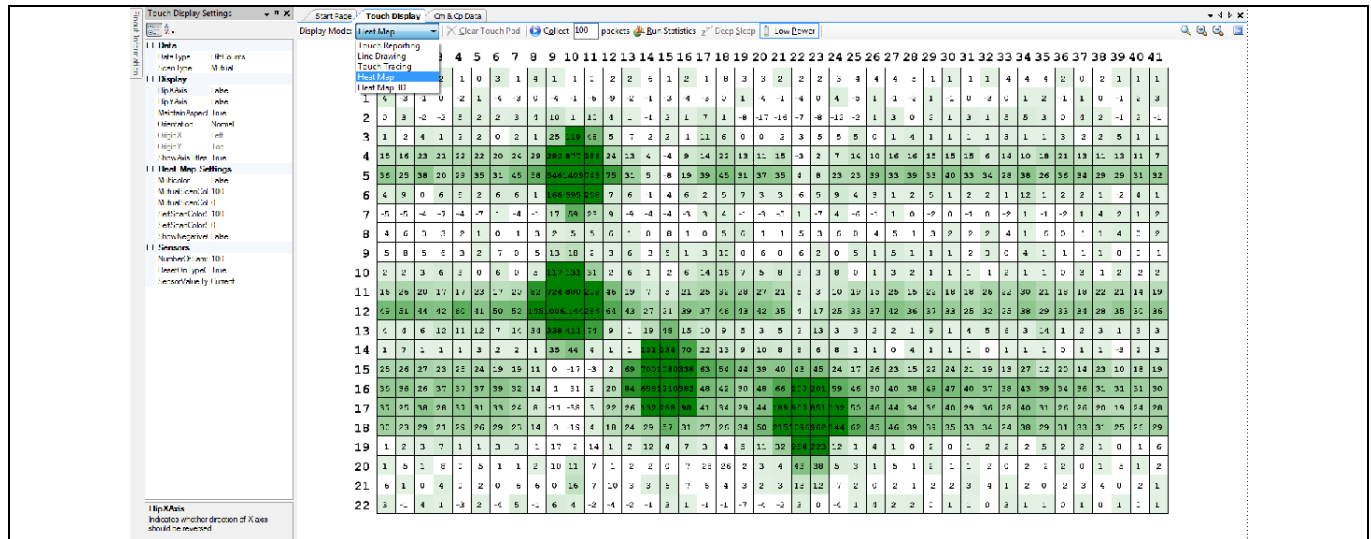

Figure 15 Heat map mode
15. To view actual sensor data, select **Heat Map** in the drop-down menu. In the Touch Display Settings window, under the **Data** tab, select **Data Type** value to **DiffCounts**. Your window should look similar to **Figure 15**.